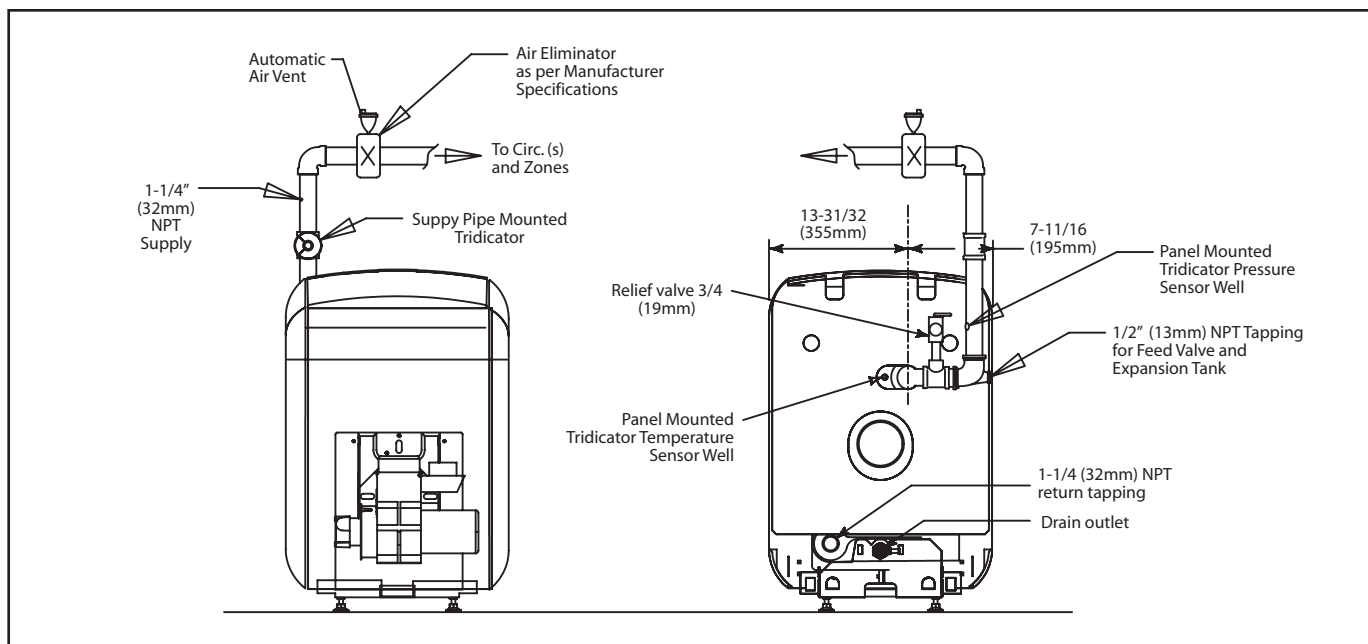

Figure 3. Air Eliminating System or Alternating Collecting System. Pipe off to a safe place the relief valve and drain outlet.
- A. DIAPHRAGM-TYPE COMPRESSION TANKS are used to control system pressure in an AIR ELIMINATING SYSTEM: an automatic air vent is used to REMOVE air from the system water. See figure 3.
If system pressure needs further control, add an additional tank or install a larger capacity tank. The automatic air vent should be installed in the top of the boiler, as in figure 3.
- B. CONVENTIONAL COMPRESSION TANKS (non-diaphragm type) are used to control system pressure in an AIR COLLECTING SYSTEM. Within the system, after initial start-up and venting, air is collected in the tank and acts in contact with the water to control pressure. Air is not vented from this system. If system pressure needs further control, add another tank in parallel with the original tank or install a large capacity tank. Locate the tank at the inlet end of the pump near the boiler. (See figure 3)
- D. PUMP LOCATION - Locating low-head pump(s) on return to boiler is acceptable for smaller boiler sizes in residences of one or two stories. The pump location shown in figure 3 is required in large, multi-story building installations, especially when high-head pumps are used.